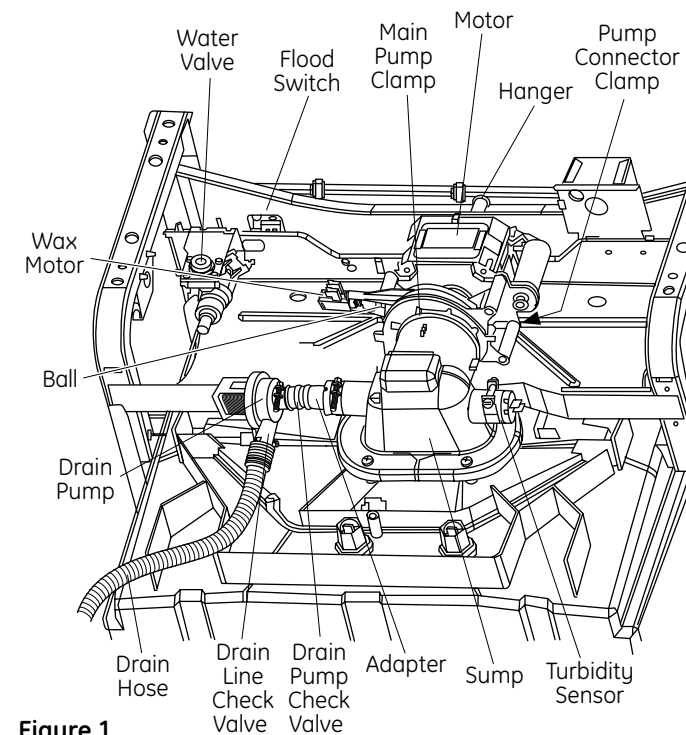
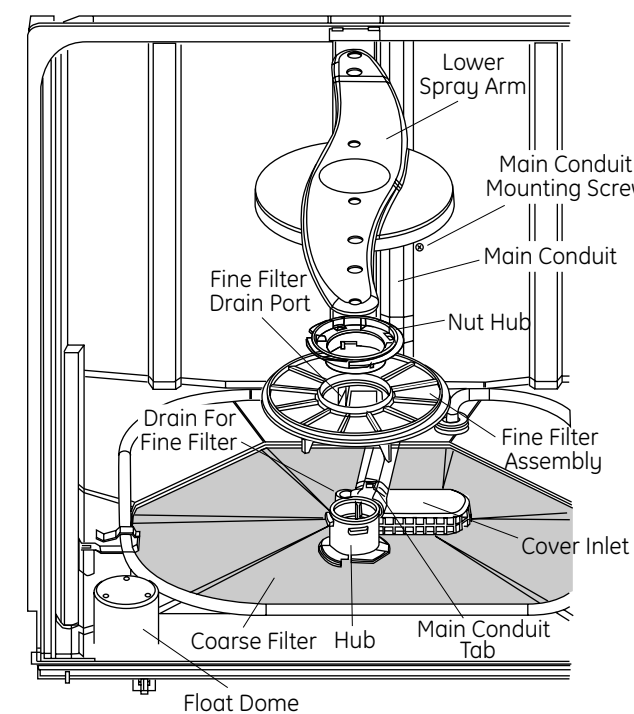

Figure 1
Figure 3
2. Check cover inlet (Figure 3) in the bottom of the tub. Make sure that it is clear of food particles.
5. Remove lower spray arm (Figure 3).
6. Remove main conduit mounting screw (Figure 3).
7. Lift main conduit tab, pull and rotate main conduit out of hub (Figure 3).
8. Remove the cover inlet, check sump and drain outlet (Figure 3). It may be blocked by a toothpick or other object.
9. Check drain pump valve (Figure 1) for correct operation. Water should flow only from the pump to the drain hose.
10. Drain line check valve (Figure 1) must pass water in the drain line direction only.
2. On inside of dishwasher, remove the cover inlet (Figure 3) and reach down into the sump (Figure 1). Check for blockages such as bone, wire ties, etc. If it contains debris, clean thoroughly. If motor shaft cannot be turned, remove mechanism.
1. Remove cover inlet (Figure 3). With syringe, remove all water from sump (Figure 3).
2. Loosen main pump clamp and pump connector clamp (Figure 1).
3. Remove hanger that holds motor to tub frame (Figure 1).
### To Remove Lower Arm and Fine Filter Assembly (Figure 3):